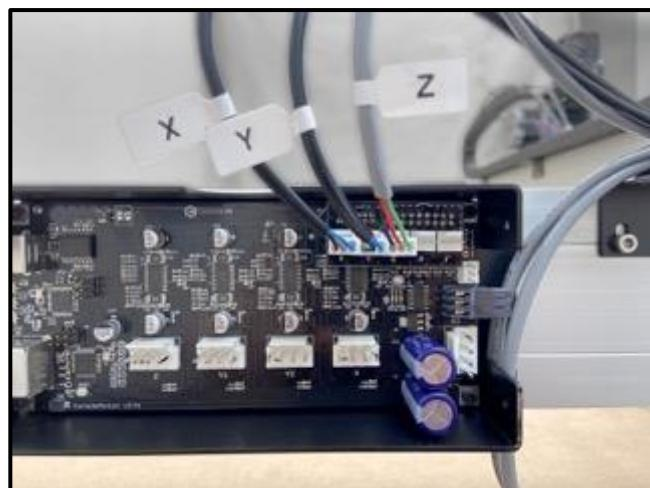

Figure 8-7
1. Plug the 3-pin proximity switch extension cables labeled "X," "Y," and "Z" into their respective ports on the PCB riser board. Be sure to match the labels on the cables with those of the board. The "P," and "F" ports to the right remain empty. See *Figure 8-7*.